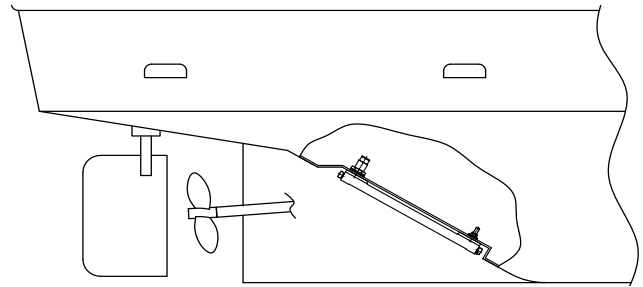

FIG.8 U-Flow unit with E1 OPTION end mounted anodes mounted on rake of vessel with nozzles positioned to avoid air entrapment.
- 1.6.3 When installing a multiple-pass unit on an incline, make sure that the nozzles are at the high end to avoid air entrapment. See Figure 8.